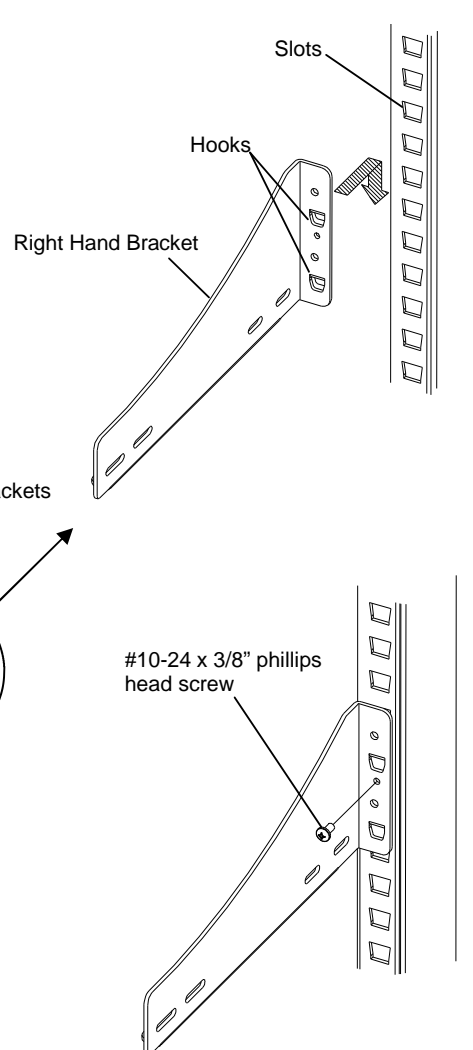

Figure 2.
2. Lock each Bracket in place using the #10-24 x 3/8" phillips head screws (provided). See figure 2.